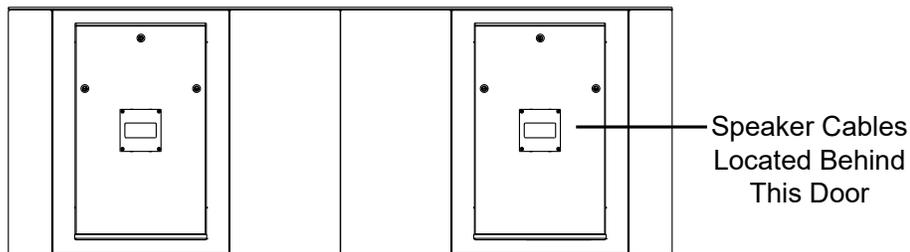

Figure 13: Sound Cabinet Access Doors, Rear View
1. Open the far right rear access door (**Figure 13**) of the sound cabinet. Turn all latches a 1/4 turn using a flathead screwdriver (older latches can be turned with fingers). Tilt the top of the door away from the cabinet. With the door tilted, use the handle to lift it up and out of the door frame.